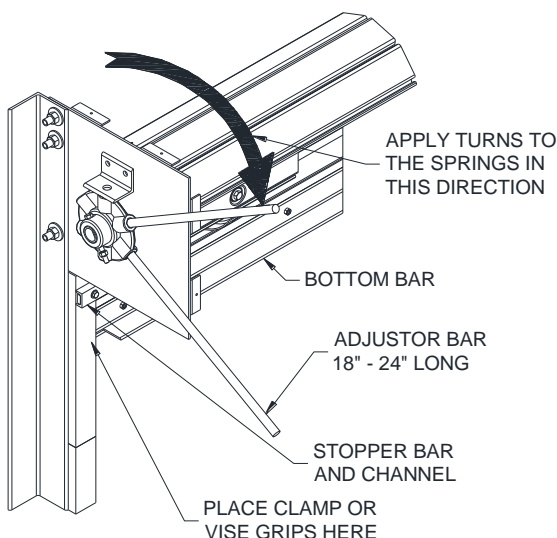

Figure 8.5 – Clamping the Guides, Applying Turns.
4. Rotate wheel in a direction of raising the curtain. Maintain applied torque with upper rod, while removing lower rod. RE-insert this rod above the other and continue applying torque one notch at a time using this hand over hand procedure until the specified number of spring turns has been applied. Replace stop pin or bar into adjustor wheel as shown in **Figure 8.5** and insert the cotter pin to hold it in place.